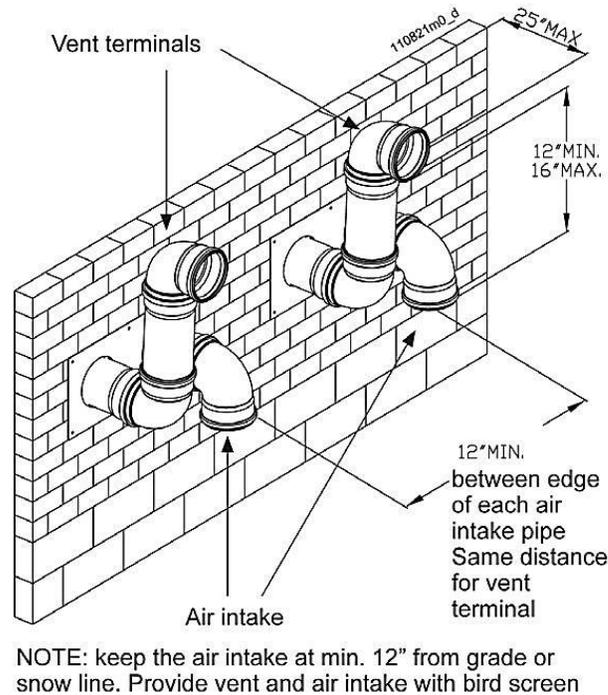

Figure 6-7: Two-Pipe Multi-Unit Air and Vent Sidewall Termination
- Terminate each vent/air connection as shown in Figure 6-7.
- Place wall penetrations to obtain minimum clearance of 12 inches between edge of air inlet and adjacent vent outlet, as shown in Figure 6-7 for U.S. installations. For Canadian installations, provide clearances required by CSA B149.1 Installation Code.